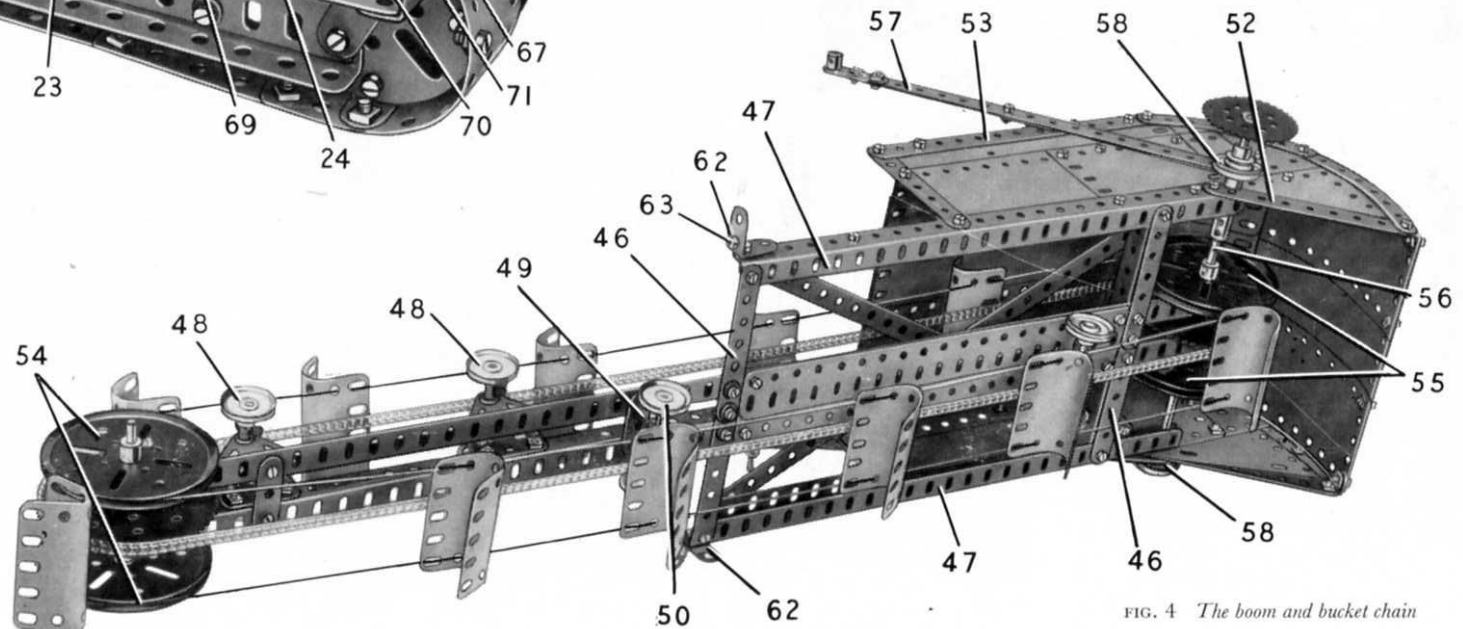

FIG. 4 The boom and bucket chain
The boom that supports the bucket chain consists of two  $24\frac{1}{2}$ " Angle Girders connected by a  $1\frac{1}{2}$ " Strip, two  $9\frac{1}{2}$ " Flat Girders and two built-up strips (46) (Fig. 4), each made from two  $3\frac{1}{2}$ " Strips. The upper one of the strips (46) is strengthened by a 3" Angle Girder on each side. A  $12\frac{1}{2}$ " Angle Girder (47) on each side is bolted to the ends of the strips (46), and this structure is braced by two crossed  $12\frac{1}{2}$ " Strips. The lower ends of the  $12\frac{1}{2}$ " Strips are bolted to  $4\frac{1}{2}$ " Angle Girders fixed to the Girders (47), and the upper ends are attached to Angle Brackets also bolted to the Girders (47).